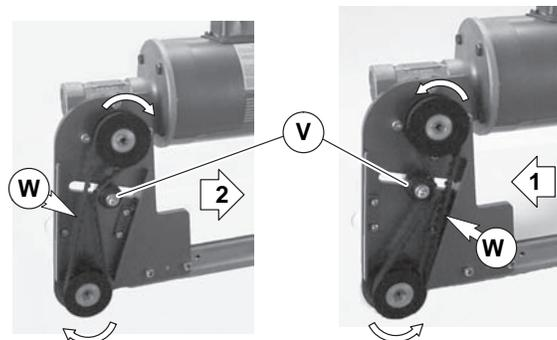

Figure 16
- Depending on conveyor belt travel (direction 1 or 2 on Figure 16), locate timing belt tensioner (Figure 16, item V) as shown. Tension timing belt to obtain 0.125" (3 mm) deflection for 1.0 lb (456 grams) of force at timing belt mid-point (W). Tighten tensioner screw to 103 in-lb (12 N-m).
3. Depending on conveyor belt travel (direction 1 or 2 on Figure 16), locate timing belt tensioner (Figure 16, item V) as shown. Tension timing belt to obtain 0.125" (3 mm) deflection for 1.0 lb (456 grams) of force at timing belt mid-point (W). Tighten tensioner screw to 103 in-lb (12 N-m).
5. Depending on conveyor belt travel (direction 1 or 2 on Figure 16), locate timing belt tensioner (Figure 16, item V) as shown. Tension timing belt to obtain 0.125" (3 mm) deflection for 1.0 lb (456 grams) of force at timing belt mid-point (W). Tighten tensioner screw to 103 in-lb (12 N-m).